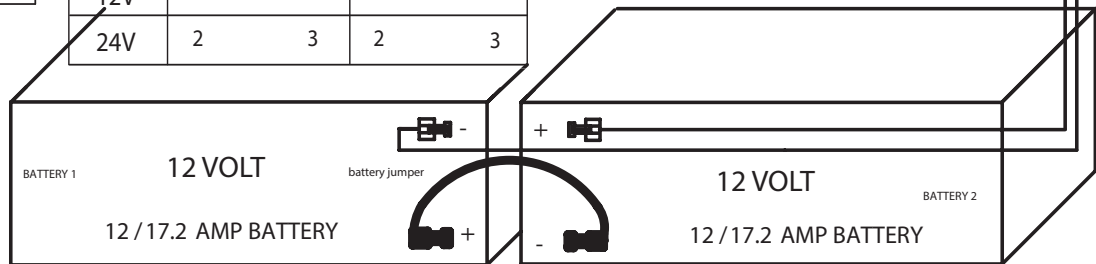

Fig. 1
11. See below Fig 1 & Fig 2. for installation of PD4ECB, PD8ECB, MOM8ECB and ACM4ECB need 2 EOLR Resistors (2K2) provided.
Normally Open (NO), Normally Closed (NC) input or Polarity Reverse (Rev. Volt.) input are available to trigger the ACM4ECB operation. Connect the positive(+) and Negative(-) from the FACP or ACP to the REV. VOLT terminals observing the polarity, (polarity is referenced in alarm condition) or connect the NO or NC from the FACP or ACP output to the "Fire Trigger" terminals. Install PWX2K2 2k2 (EOLR) resistor at the FACP or ACP as show in Fig. 1. Note: No ELOR on Rev. Pol.